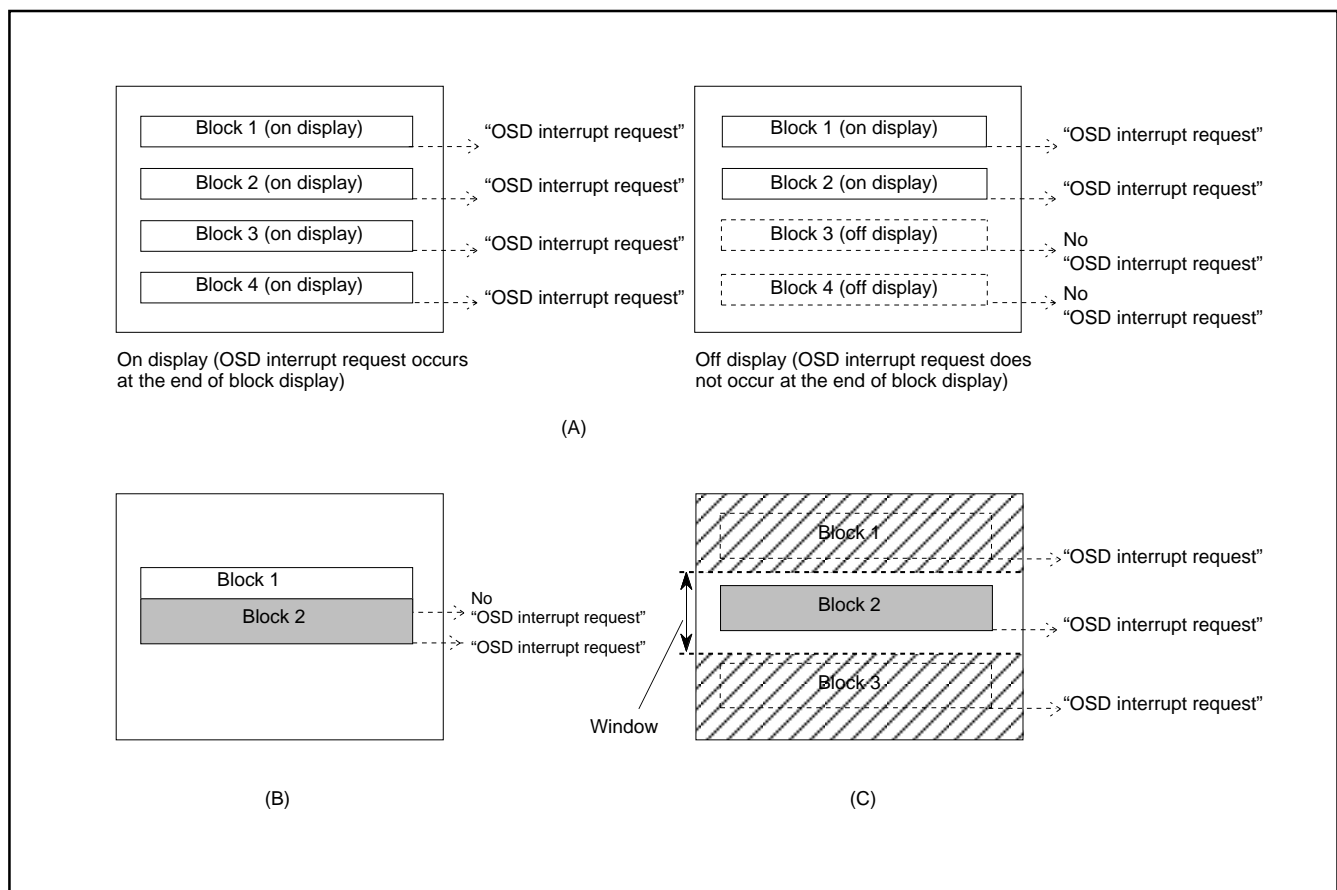

Fig. 8.11.36 Note on Occurrence of OSD Interrupt
Notes 1: An OSD interrupt does not occur at the end of display when the block is not displayed. In other words, if a block is set to off display by the display control bit of the block control register *i* (addresses 00D016 to 00DF16), an OSD interrupt request does not occur (refer to Figure 8.11.36 (A)).
2: When another block display appears while one block is displayed, an OSD interrupt request occurs only once at the end of the another block display (refer to Figure 8.11.36 (B)).
3: On the screen setting window, an OSD interrupt occurs even at the end of the CC mode block (off display) out of window (refer to Figure 8.11.36 (C)).